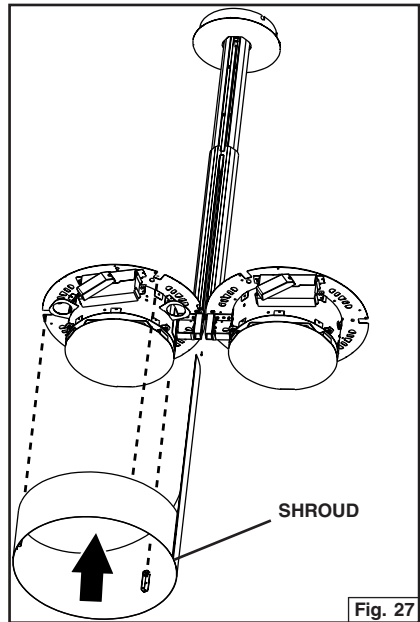

Fig. 27
1. First Slide the Shroud between the support arms. Make sure the attachment brackets are above the power unit flange. Fig. 27 and Fig. 28.